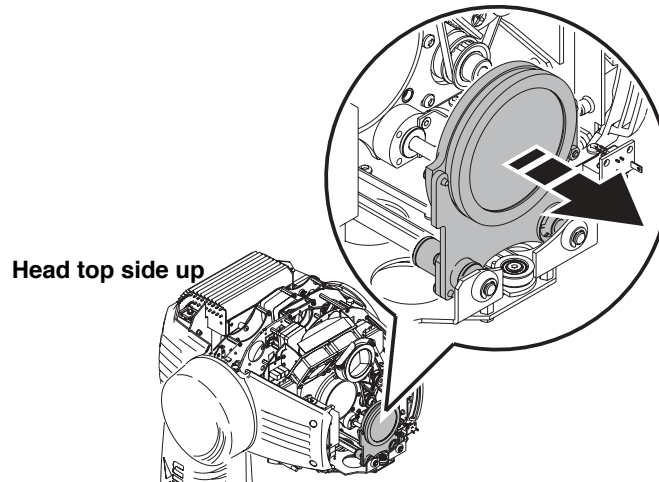

**Figure 16: Moving the zoom lens forward**
4. Position the head top side up so that you have access through the top. Holding the zoom lens by its base, slide it out to its limit at the front of the fixture as shown in Figure 16.